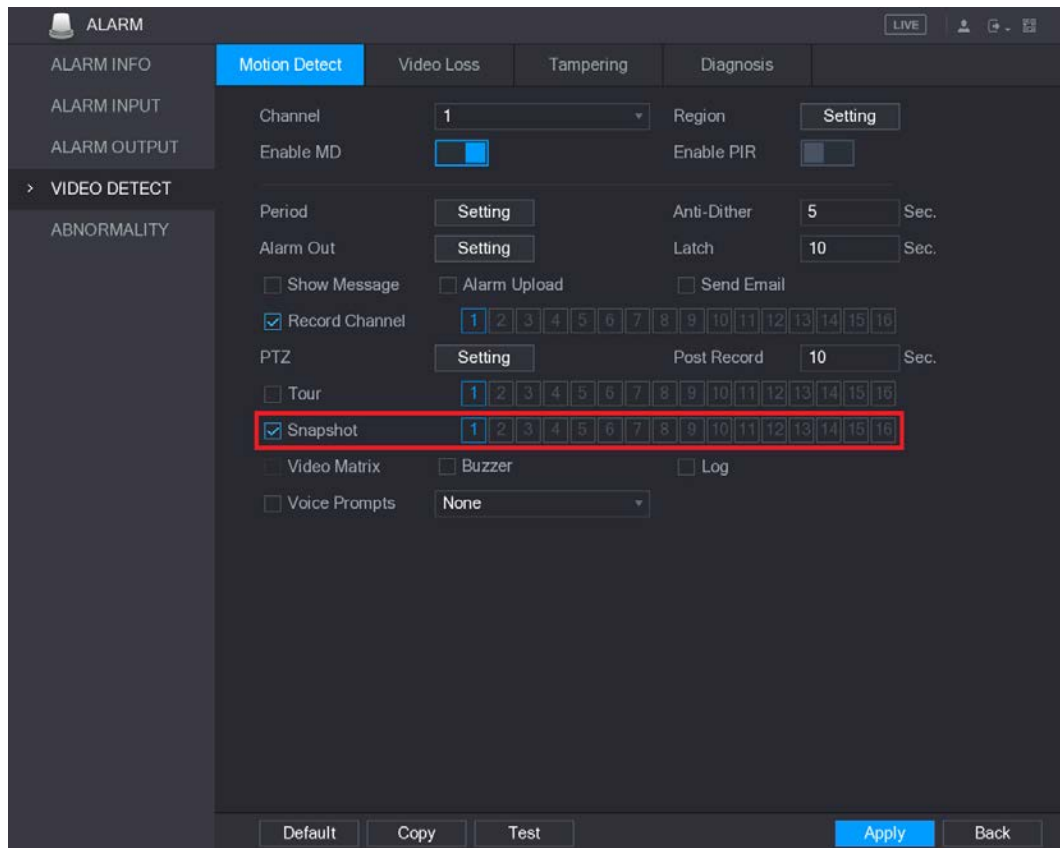

Figure 5-94
Step 3 Select **Main Menu > ALARM > VIDEO DETECT**, and select the event type to configure, for example, select the **Motion Detect** tab. See Figure 5-94.